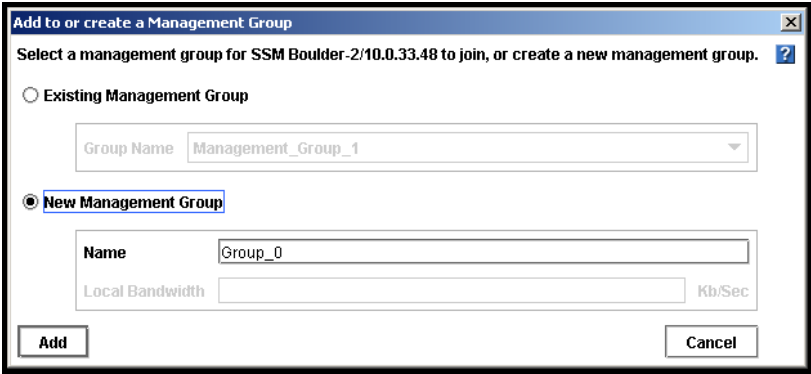

Figure 134. Creating a New Management Group
- 3. Click the Tasks button and select Add to New or Current Management Group. The Add to or create a Management Group window opens, shown in Figure 134.